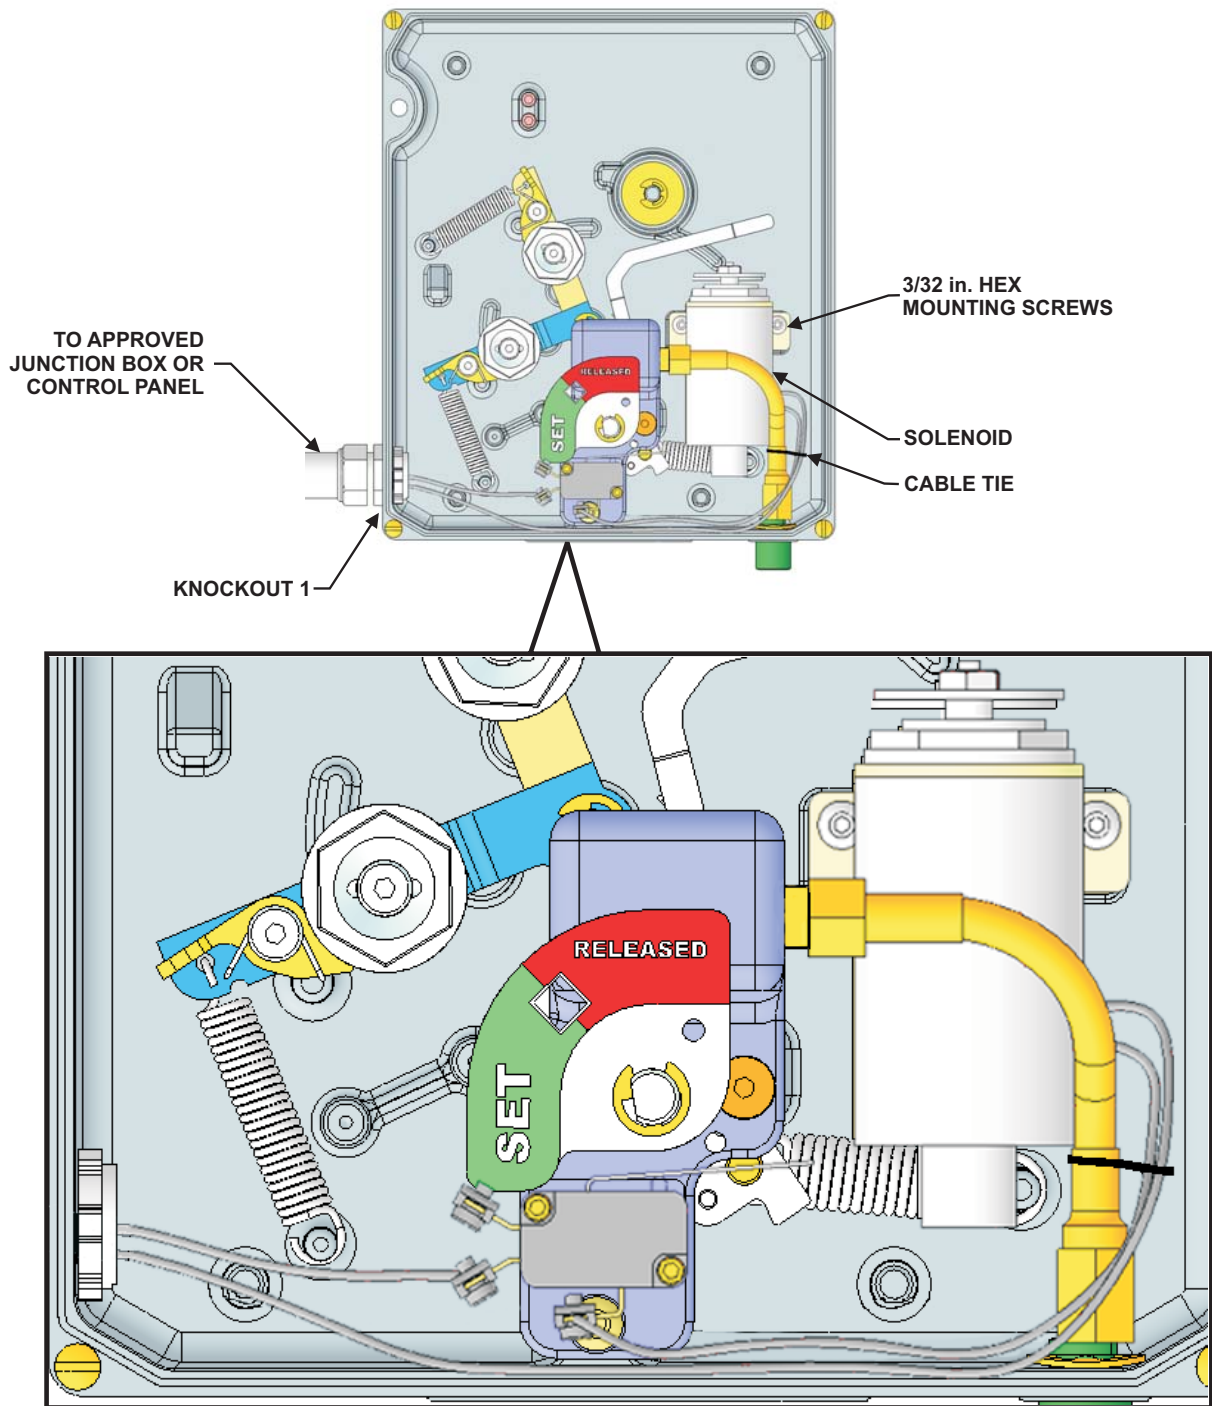

Figure 4-34. Solenoid Mounted and Wired in the UCH Control System
1. Using a 3/32-inch Allen key, position the Solenoid behind the High-Pressure Nitrogen Tubing, aligning the mounting bracket with the mounting screw holes on the actuator mounting pad (see Figure 4-34).
- Finish the releasing loop by attaching a wire to T4 of the microswitch, through the conduit and into an approved control panel. See Figure 4-34.